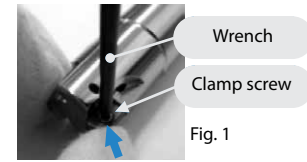
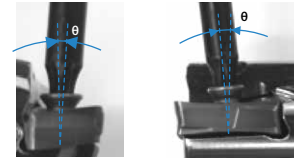

Fig. 1
Fig. 2
2. Attach the screw (magnetic head) to the front end of the wrench. While lightly pressing the insert against the constraint surfaces, put the screw into the hole of the insert and tighten. (Ref. to Fig. 1) Tighten M3 screws (SB-3065TRP) slightly inclined from the insert surface. (Ref. to Fig. 2)